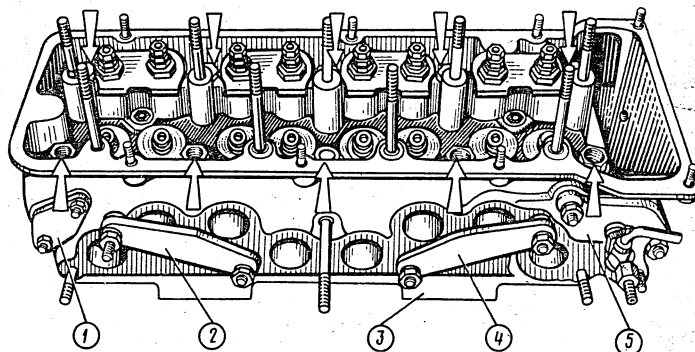

Fig. 2-52. Checking the Cylinder Head for Tightness on Tester A.60334:
- install the parts of tester A.60334 (Fig. 2-52) on the cylinder head;